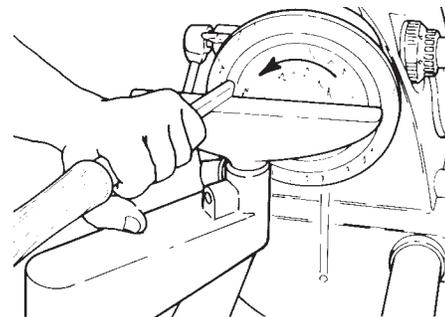

Figure D-53
- a. Scraping is one way to shape the inside. Turn on the machine, set the speed, and feed a roundnose chisel against the downward side of the stock. See Figure D-53. As you work, periodically check the inside diameter with inside calipers.